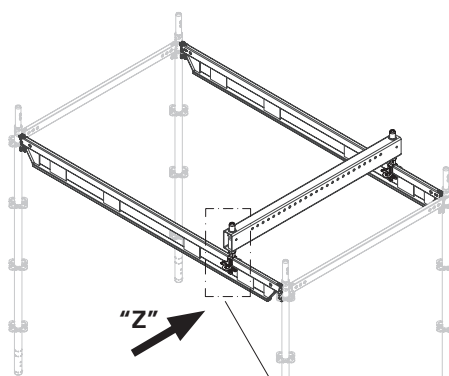

Fig. A8.02
- does not marry up with the load-bearing substructure, variant 2. (Fig. A8.02)
- starts with the lower edge of the ledger (28).